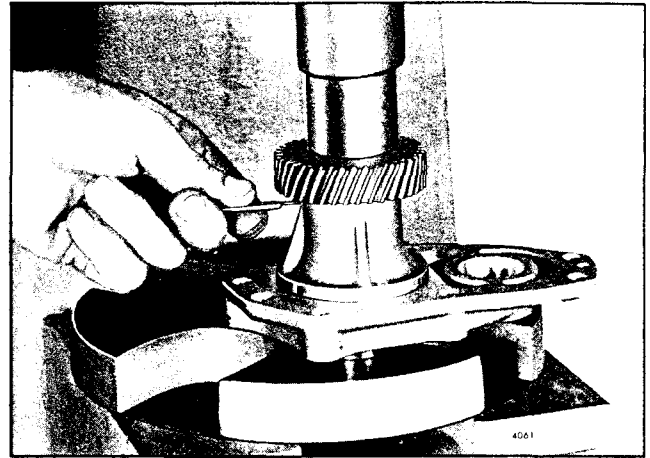

Fig. 17 - Installing Blower Drive Gear on Shaft
4. Install the key in the shaft, then place the blower drive support on an arbor press. Lubricate the inner diameter of the blower drive gear and start it straight on the shaft, with the keyway in the gear aligned with the key in the shaft. Place a spacer over the gear and press the gear on the shaft until a $.005''$ feeler gage may just be withdrawn (Fig. 17).